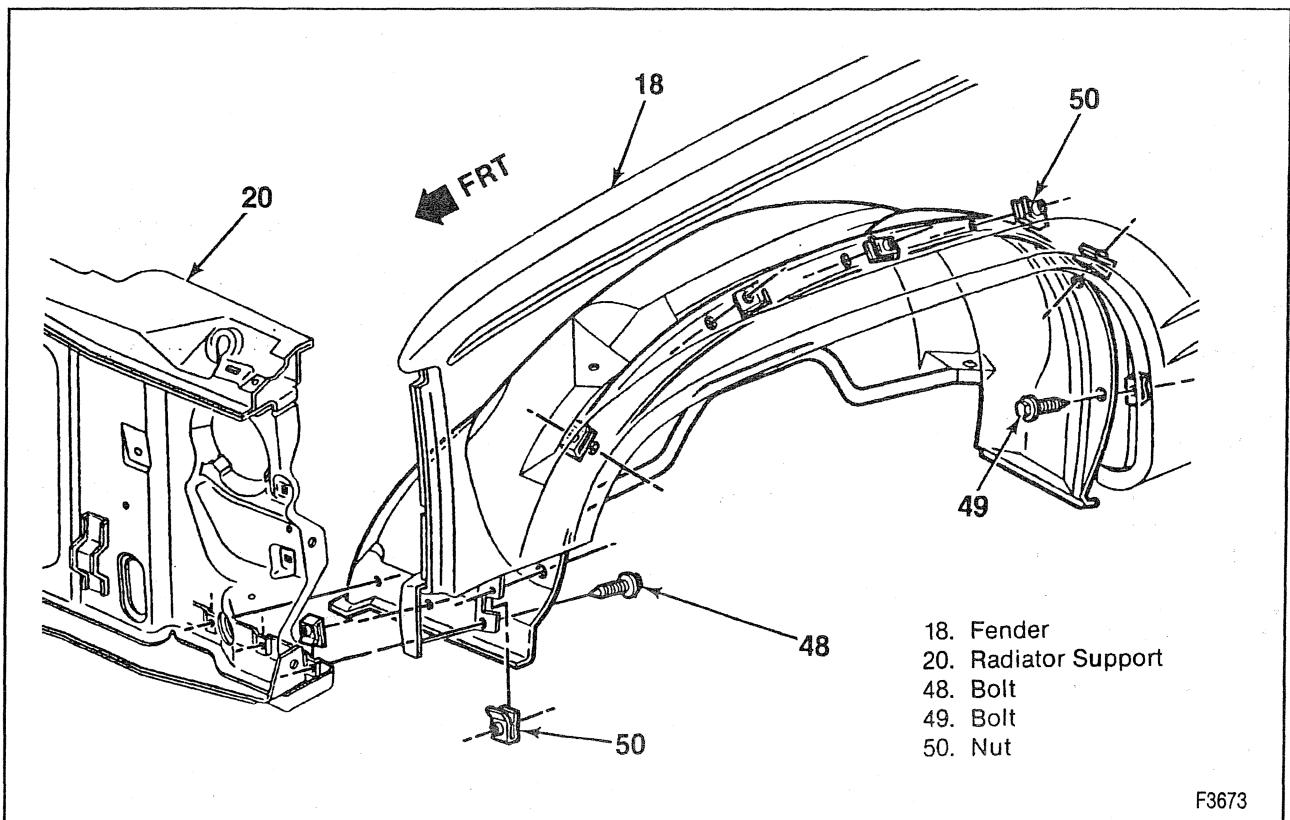

Figure 17—Wheelhouse Panel to Radiator Support Attachment
Remove or Disconnect (Figures 17 and 18)
8. Two bolts holding the wheelhouse to the cowl mounting brackets (figure 17).
Install or Connect (Figures 17 and 18)
Remove or Disconnect (Figures 17, and 21 through 24)
17. Wheelhouse panel to the radiator support bolts (figure 17).